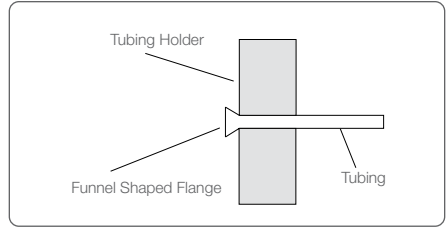

Figure 4. Funnel shape formation.
4. Remove the heating iron and tip from the tubing. As the flange cools, it will form the shape of a funnel (Figure 4).